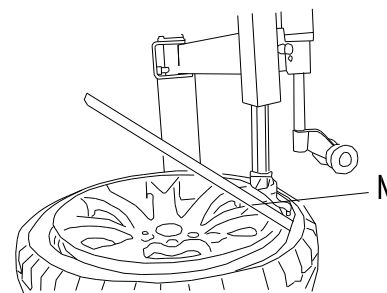

Fig 18
3. Nearby demount/mount head, insert lift lever N into tyre, use lift lever to lift bead upon knob of demount / mount head. Manually rotate roller C to inner side, pull handle D down, make roller C to press rim, keep 3-5mm gap between demount/mount head and rim, make sure demount/mount head not damage rim, rotate tire installation base, demount tyre upper bead ( Fig 18)